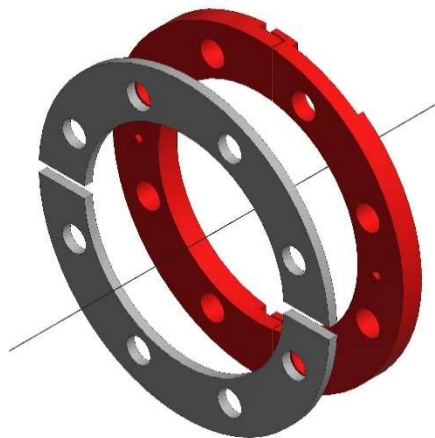

Figure 8: Alignment of the pressure ring and the insulating ring
- The pressure rings consist of 2 components of equal size. They are to be mounted 90° offset to the insulating rings (see figure 8). The pressure rings transfer the surface pressure from the screw forces to the insulating rings and must not be changed in any way.